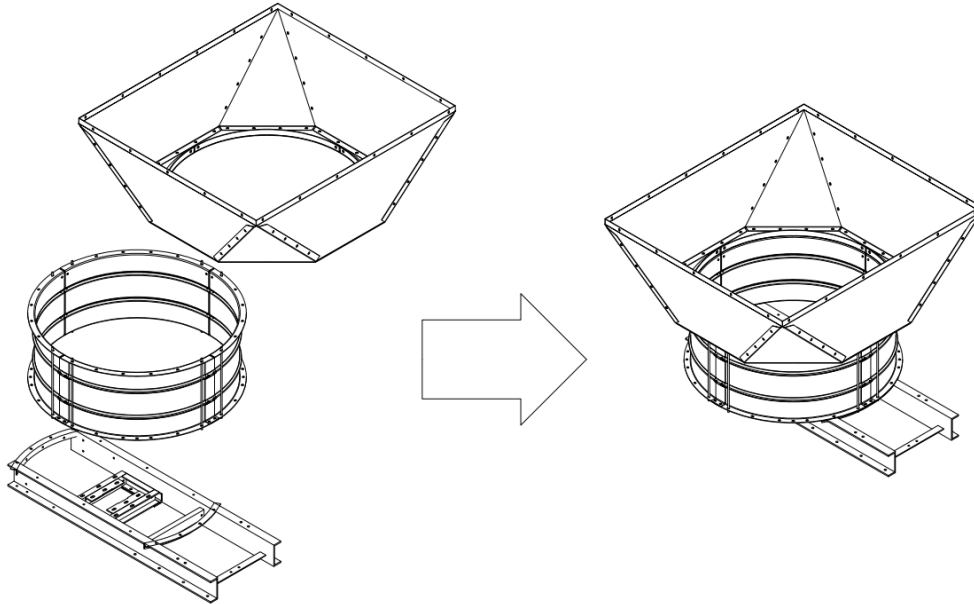

Figure 3-12 Assembly of Mechanism Support, Fan Ring & Plenum on the Floor
- A. Mechanism support, fan ring and plenum are to be assembled on the floor before being lifted and installed on the structure under the bundle frame. (See Figure 3-12)